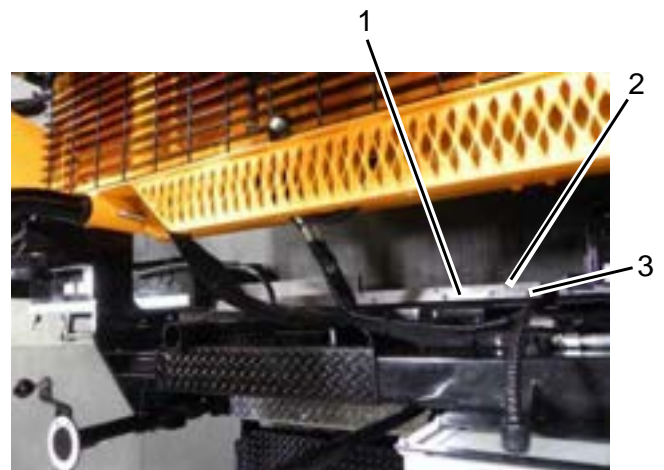

Figure 5-9. Screed Extension Top Guide Adjustment
2. Raise the screed approximately two (2) inches and insert a block to support the screed. Turn off the engine.
3. Loosen the top slide rail lock-down bolts. **(Figure 5-9)**